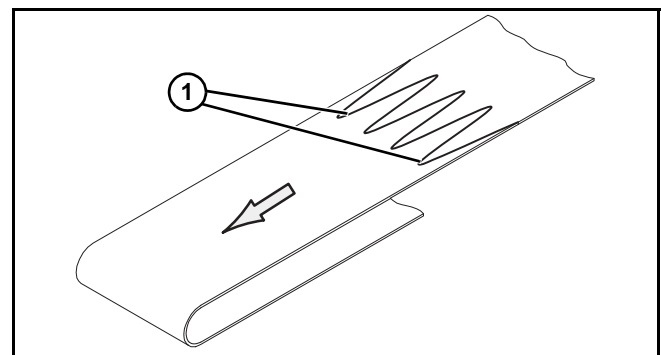

Figure 50
1. Orient the conveyor belt so that the splice leading fingers (**Figure 50, item 1**) point in the direction of belt travel, indicated by the label (**Figure 49, item 1**).